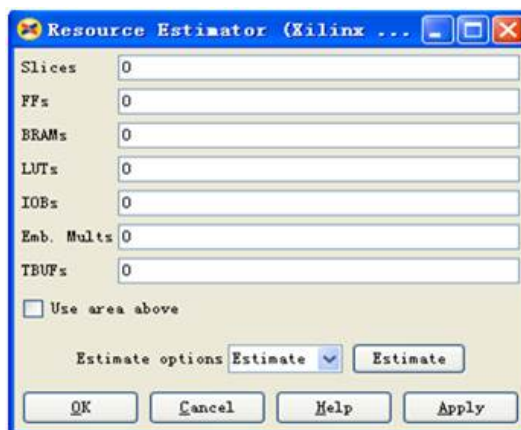

Figure 7: Resource Estimator Block
3. Open the **Resource Estimator** block (As seen in Figure 7)